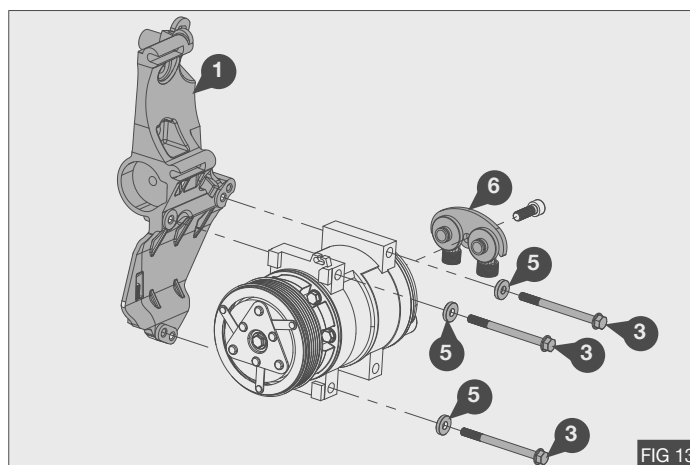

FIG 13
- Install the supplied compressor manifold (6) in the orientation shown opposite. Torque the securing bolt of the manifold (6) to 34 Nm / 25 lb ft – Fig 13
- Install the compressor to the mount bracket (1) using the 3x M8x100 bolts (3) fitted with washers (5). Torque bolts (3) to 20 Nm / 15 lb ft using a calibrated torque wrench – Fig 13
- Re-fit the alternator (R) and secure using the original fasteners. Torque the alternator fixing bolts to 25 Nm / 18.4 lb ft. Re-fit the wiring to the alternator.